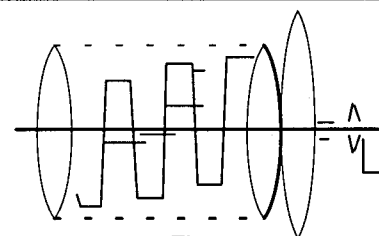

Fig.10.
1. Adjust APC trimmer (**C637**) to obtain the waveform at **TPC15** as shown in Fig.10.